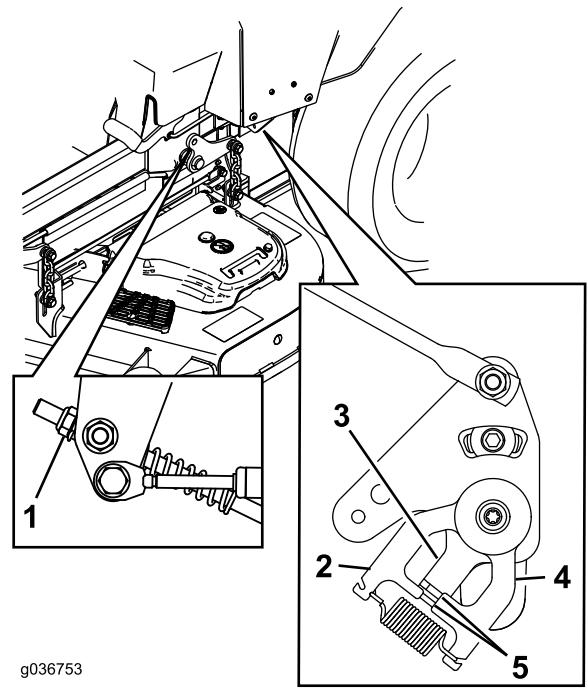

Figure 70
9. Adjust the pump-control-rod lengths by turning the nut in the appropriate direction until the wheels slightly creep in reverse (see Figure 70).